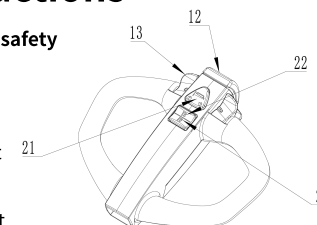
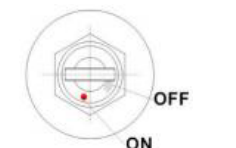
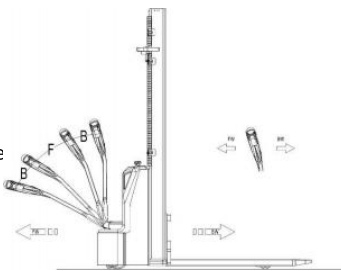

Figure 9: Handle operation control
Figure 10: Key switch
Figure 13: Operation direct
Press the horn button 21 (Figure 9) to start the horn.
When driving, lower the forks completely onto the legs and press the lift button (Figure 9, 22) until you reach your desired lifting height.
Carefully press the lower button (Figure 9, 23). Lower the cargo until the forks leave the pallet, then carefully drive the vehicle away from the cargo.
Turn the inserted key to the 'on' position (Fig. 10; finally, carefully pull out the emergency stop button), start the vehicle, and move the handle to the operating area ('F', Fig. 13).
Rotate the accelerator button to the desired forward direction 'Fw.' or backward direction 'Bw.' (Figure 13).
Control your speed by carefully moving the accelerator button (13, Figure 9) until you reach the desired speed.
The braking function can be activated in the following ways (Figure 9, Figure 13):
- Regenerative braking is activated by moving the accelerator button (Figure 9, 13) back to the '0' position or releasing the button. The vehicle brakes until it comes to a stop.
- By moving the accelerator button (Fig. 9, 13) directly from one direction of travel to the opposite direction, the vehicle performs regenerative braking until it begins to travel in the opposite direction.
- The belly switch (Figures 9, 12) prevents the operator from being squeezed. Pressing this switch will cause the vehicle to begin decelerating and/or begin to reverse a short distance ('Bw.') before coming to a stop. Consider this switch as also being usable if the handle is in the operating area and the vehicle is not moving.